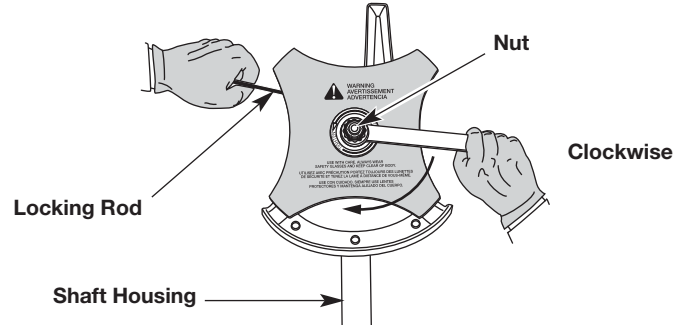

Fig. 22
2. While holding the locking rod in place, loosen the nut by turning it clockwise with a 13 mm closed-end or socket wrench (Fig. 22).